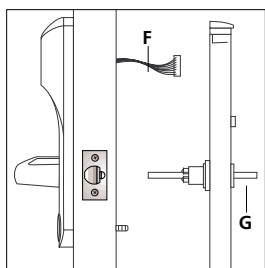

Figure 9
- 1) Thread the reader cable (F) through the reader cable hole, and mount the housing on the door (see Figure 9).
- 7) Using the inside lever to turn the inside spindle (G), retract the latch bolt. This will ensure the latch hub drive is properly engaged with the cylindrical unit hub (see Figure 9).